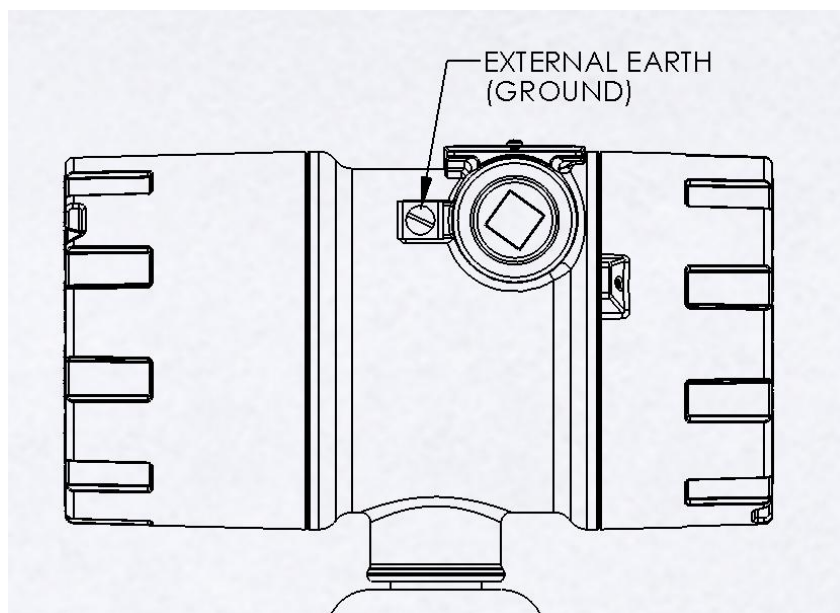

Figure 2-11. External Ground Connection
1. Use copper stranded 12 AWG minimum wire for grounding. See Figure 2-11.